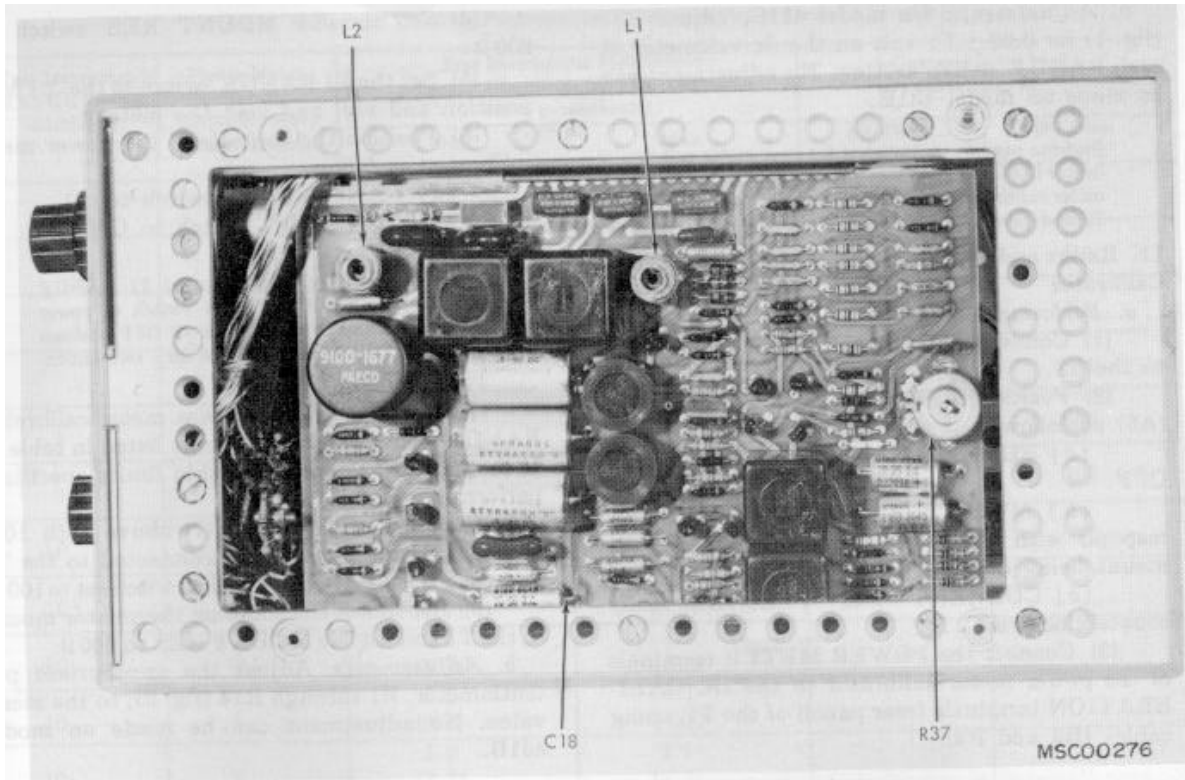
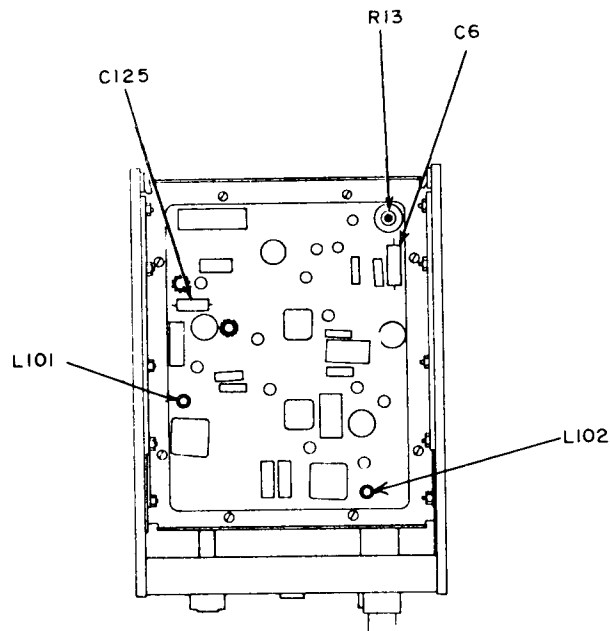
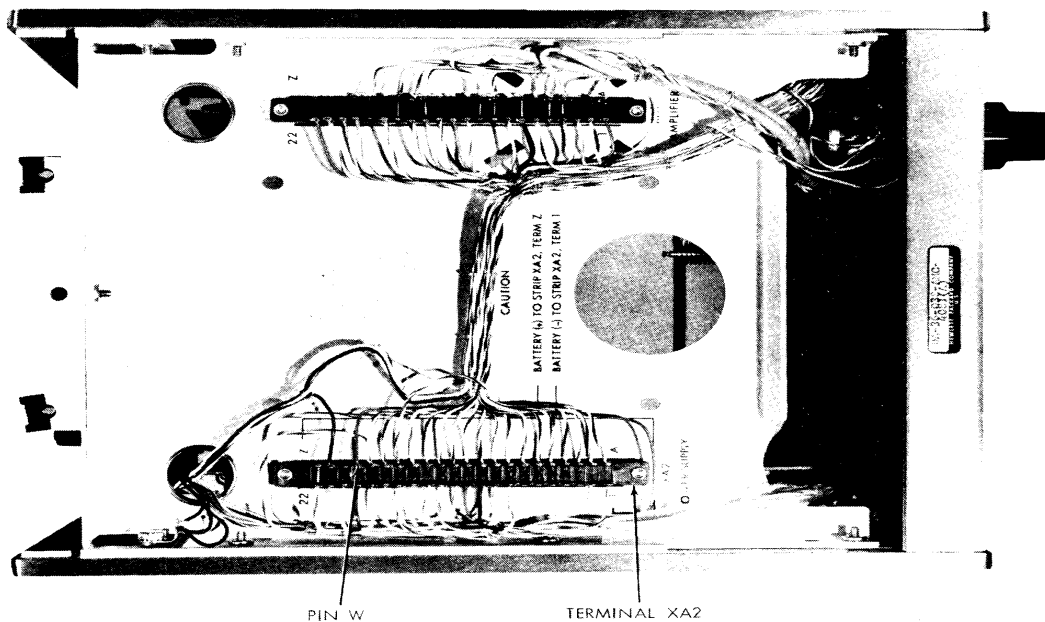

Figure 1. Right interior view - model 431C..
Figure 2. Top interior view - model 431B.
Figure 5. Top internal view-model 431C.
- (6) Connect 100-ohm thermistor mount (A8) to the TI.
- (7) Set the TI MOUNT RES switch to 100.
- (8) Repeat (2) through (5) above.
b. Adjustments. On model 431C, adjust L1 (fig. 1)(L102, fig. 2 on model 431B) for null on the TI.
(1) On model 431C, connect dc voltmeter (A3) to the TI DVM output (rear panel) using adapter (B1) and if necessary cables (B3) and (B4).
(2) On model 431B, connect resistance decade (A6)(set at 1000 ohms) to the TI RECORDER output, using adapter (B2) and cables (B3 and B4). Connect the dc voltmeter to the same terminals of the resistance decade, using cables (B3 and B4) if necessary.
(3) Position the TI RANGE switch to the .01 MW position and adjust the zero controls for 0.00 volt dc on the dc voltmeter.
(4) Turn the TI RANGE switch to .03-, .1-, .3-, 1-, 3-, and 10-MW positions while observing dc voltmeter. If the dc voltmeter does not indicate between -0.01 and +0.01 volt in each position of the RANGE switch, perform **b** below.
b. Adjustments. On model 431C, adjust R37 (fig. 1) for 0.00 \pm .01 volt on the dc voltmeter at each RANGE switch setting. No adjustment can be made on model 431B.
(1) On model 431C, connect frequency counter (A4) to the positive end of C18 (fig. 1) and ground, using cable (B4). On model 431B, connect the counter to the positive end of C125 (fig. 2) and ground.
(2) Connect 200-ohm thermistor mount (A8) to the TI and terminate the mount with termination (B6).
(3) Set the TI MOUNT RES switch to 200Ω.
(4) If the frequency counter does not indicate between 9,990 and 10,010 Hz for model 431C, perform **b(1)** below. For model 431B, if the frequency counter does not indicate between 10,025 and 10,275 Hz, perform **b(2)** below.
- (1) Adjust L2 (fig. 1) on model 431C.
- (2) Adjust L101 (fig. 2) on model 431B.
- (1) Connect dc voltmeter (A3) to pin W of terminal board XA2 (fig. 5) and ground. For model 431B, connect the voltmeter to the negative end of C6 (fig. 2) and ground.